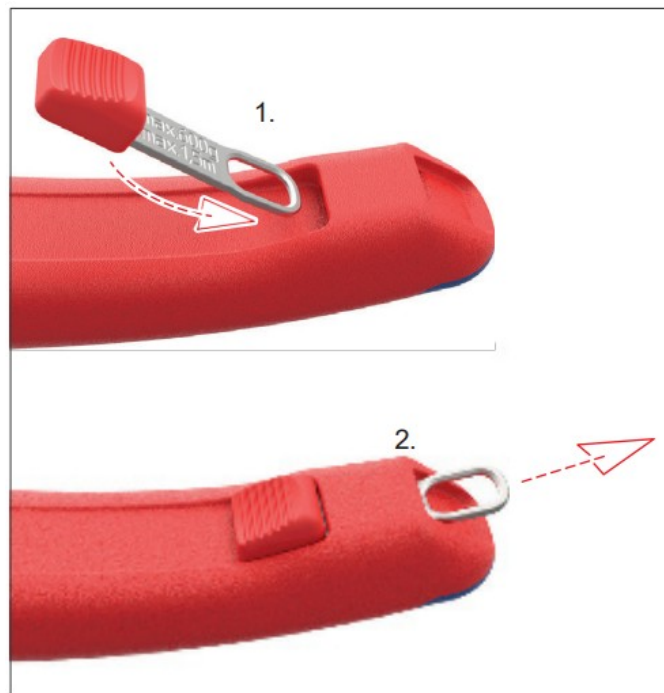

Figure 5: Attaching the KNIPEX TetheredTool Clips
- To connect a KNIPEX Tool with tethering to the 13 lbs. (6 kg) Lanyard (KNIPEX 00 50 12 T BKA) you must use the 3.3 lbs. (1.5 kg) Adapter Strap (KNIPEX 00 50 06 T BKA) (Figure 5). The cord of the 13.2 lbs. (6 kg) version is too thick to thread through the tether point on the tools.